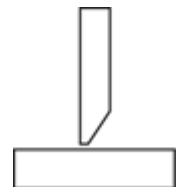

Figure 2 Image for Question 6
6. Which edge preparation is used on the tee joint in Figure 2?